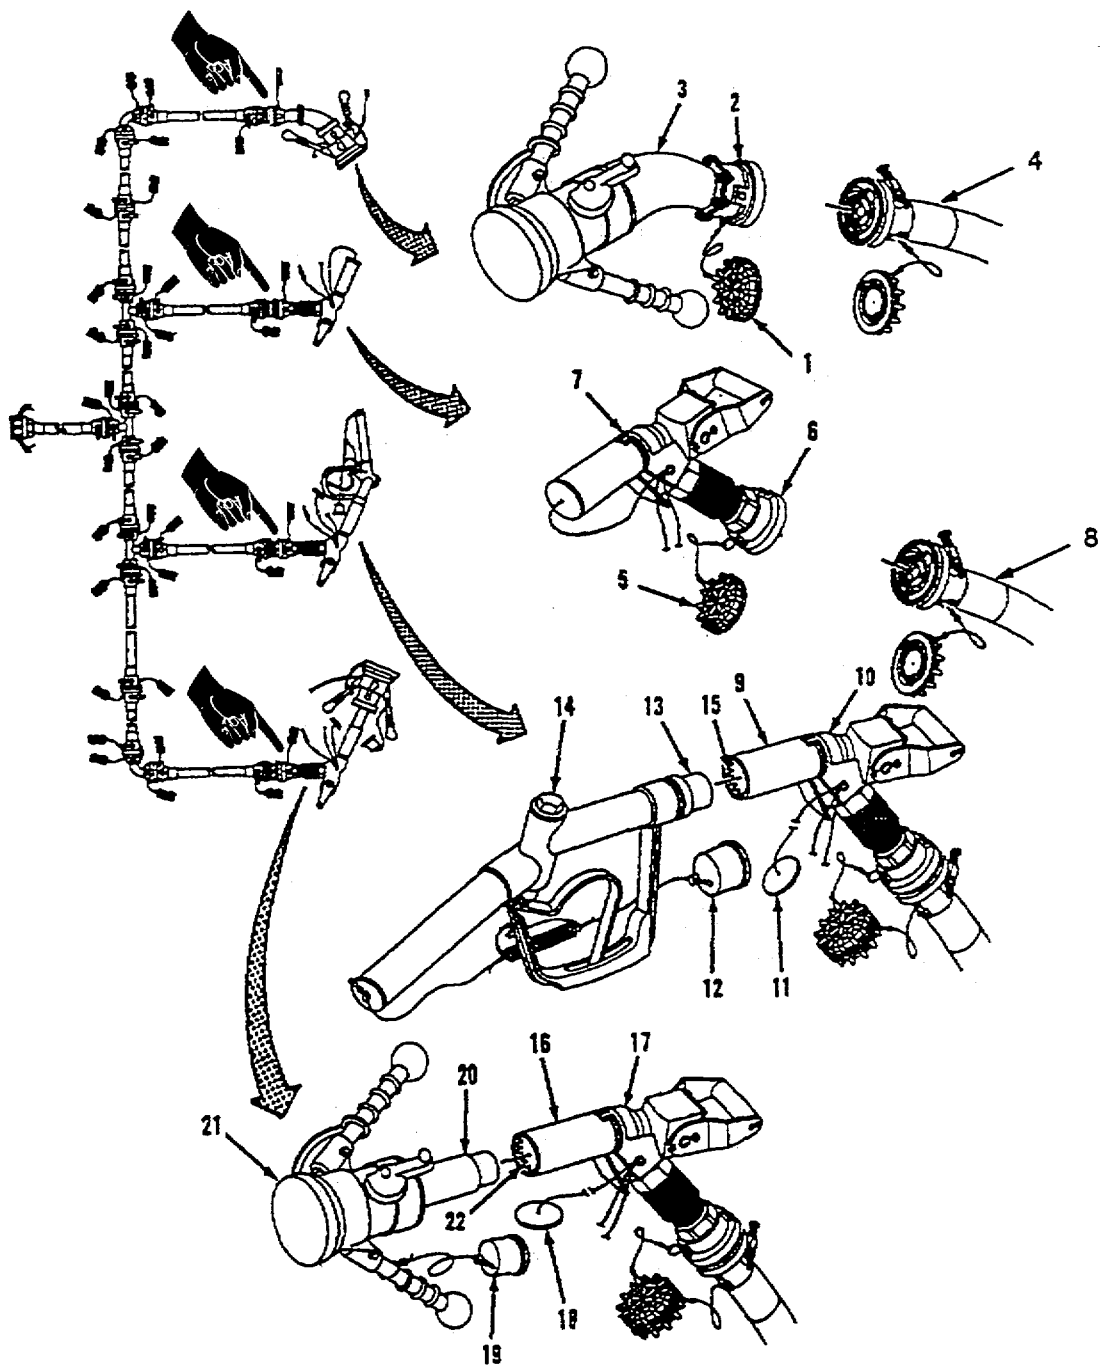

Figure 2-20. Fuel Nozzle Removal.
- d. Fuel Nozzle Removal. Refer to figure 2-20. The system layout being disassembled may have been modified to meet mission requirements. All of the same type fuel nozzle or a combination of different type nozzles might be installed. The following paragraphs provide instructions for disconnecting one of each type nozzle.